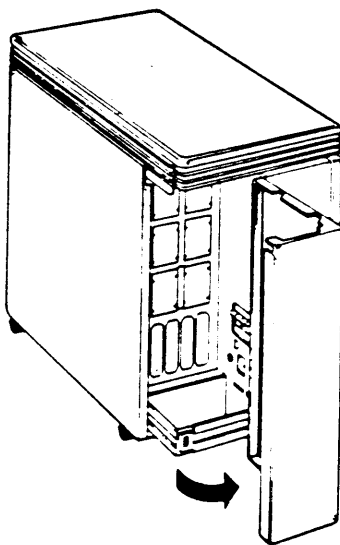

FIGURE 2-9. Opening the Rear door of the BA123-A Enclosure.
Step 6: Open the rear door of your unit. The door is held in place by a pop fastener (see Figure 2-9).